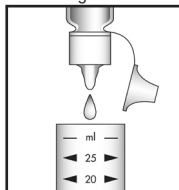

Figure 2
2. Add 5 drops of S-2500 Activator Solution and 2 drops of S-5500 Activator Solution (fig. 2). Stir to mix the contents of the cup.